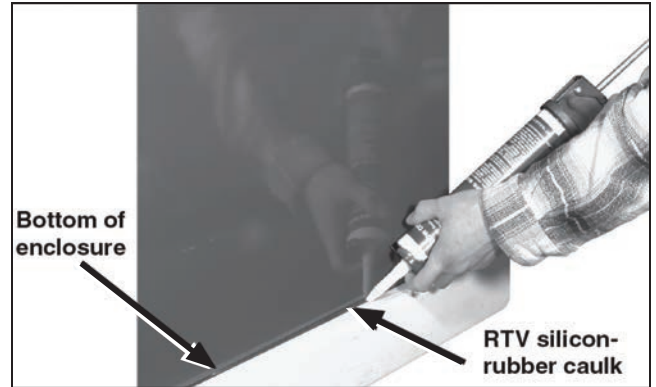

Figure 21. Caulk around the bottom of the enclosure using silicone-rubber caulk.
STEP 16. A resilient closed-cell gasket on the bottom flange of the enclosure protects the finish from being scratched during installation, and isolates it from the alkalinity of a concrete foundation. This gasket also helps to seal the enclosure to the foundation, to guard against entry of wildlife, insects, or weeds, and to discourage tampering. See Figure 21.